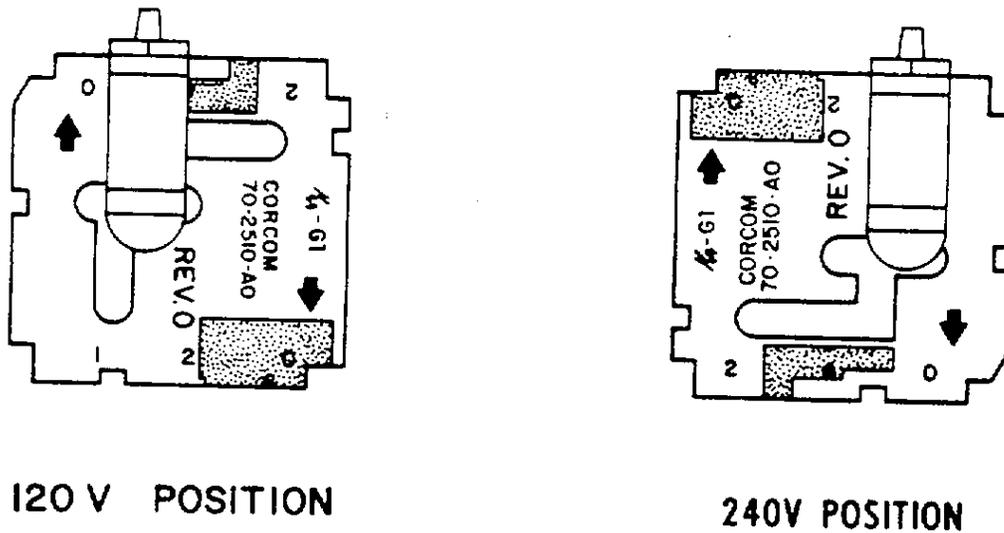
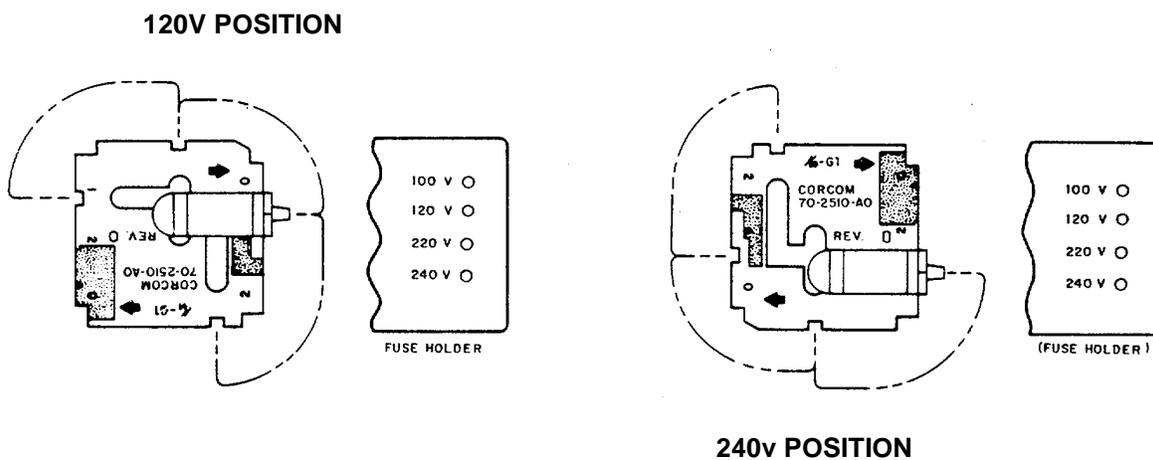

Figure 2-4. Desired Voltages
Figure 2-5. Printer Voltage Indicator Card
- (6) Hold card so that desired voltage can be read across bottom of card See figure 2-4 Voltage will be 120 V for continental United States and 240 V for most overseas applications.
- (7) Position indicator so It rests in notch at top of card.
- (8) Insert card so that writing on the card faces the power cord receptacle. Push card until firmly seated. See figure 2-5.
- (9) Insert fuse holder into receptacle and push until secure.
- (10) Verify that Indicator is visible through hole adjacent to desired voltage.